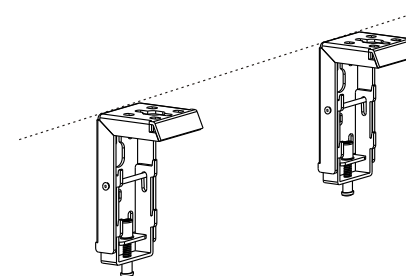

Figure 1
2. Ensure the brackets are horizontal and near the ends of the casing. Fasten to the wall or ceiling, not both. (Figure 1).